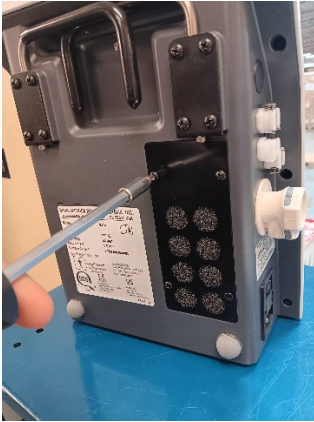

Figure 1
- [Fig. 1 & 2]
1. Turn unit **OFF**. Remove the screws on the filter housing plate, which is found at the bottom rear of the control unit [Figure 1].